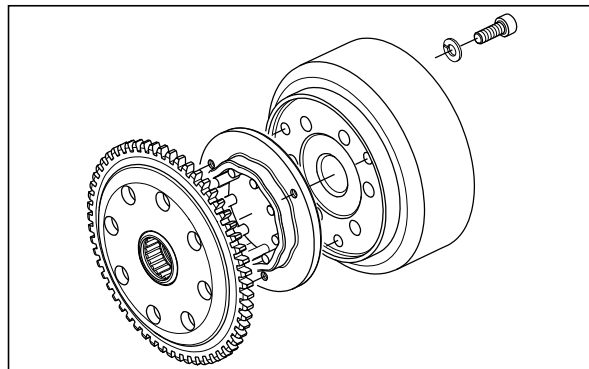

Fig. 3.136
- If required, separate the gear complete starter clutch and remove the one way clutch from rotor assembly by removing the hexagonal socket head cap screw (M6x16 - 3 Nos.) along with punched washers. (Fig. 3.136)